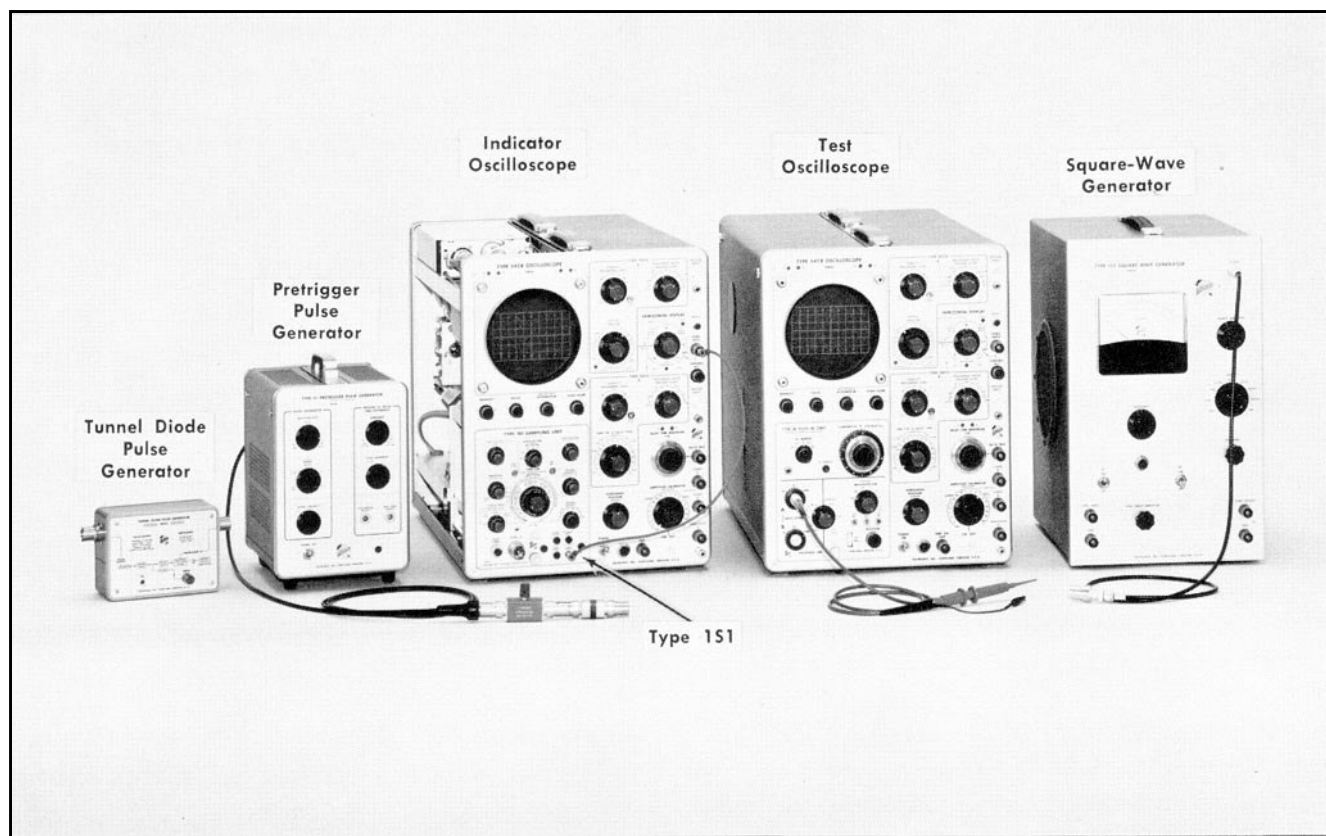

Fig. 5-44. Initial test equipment setup for steps 29 through 32.
a. Test equipment setup is shown in Fig. 5-44.